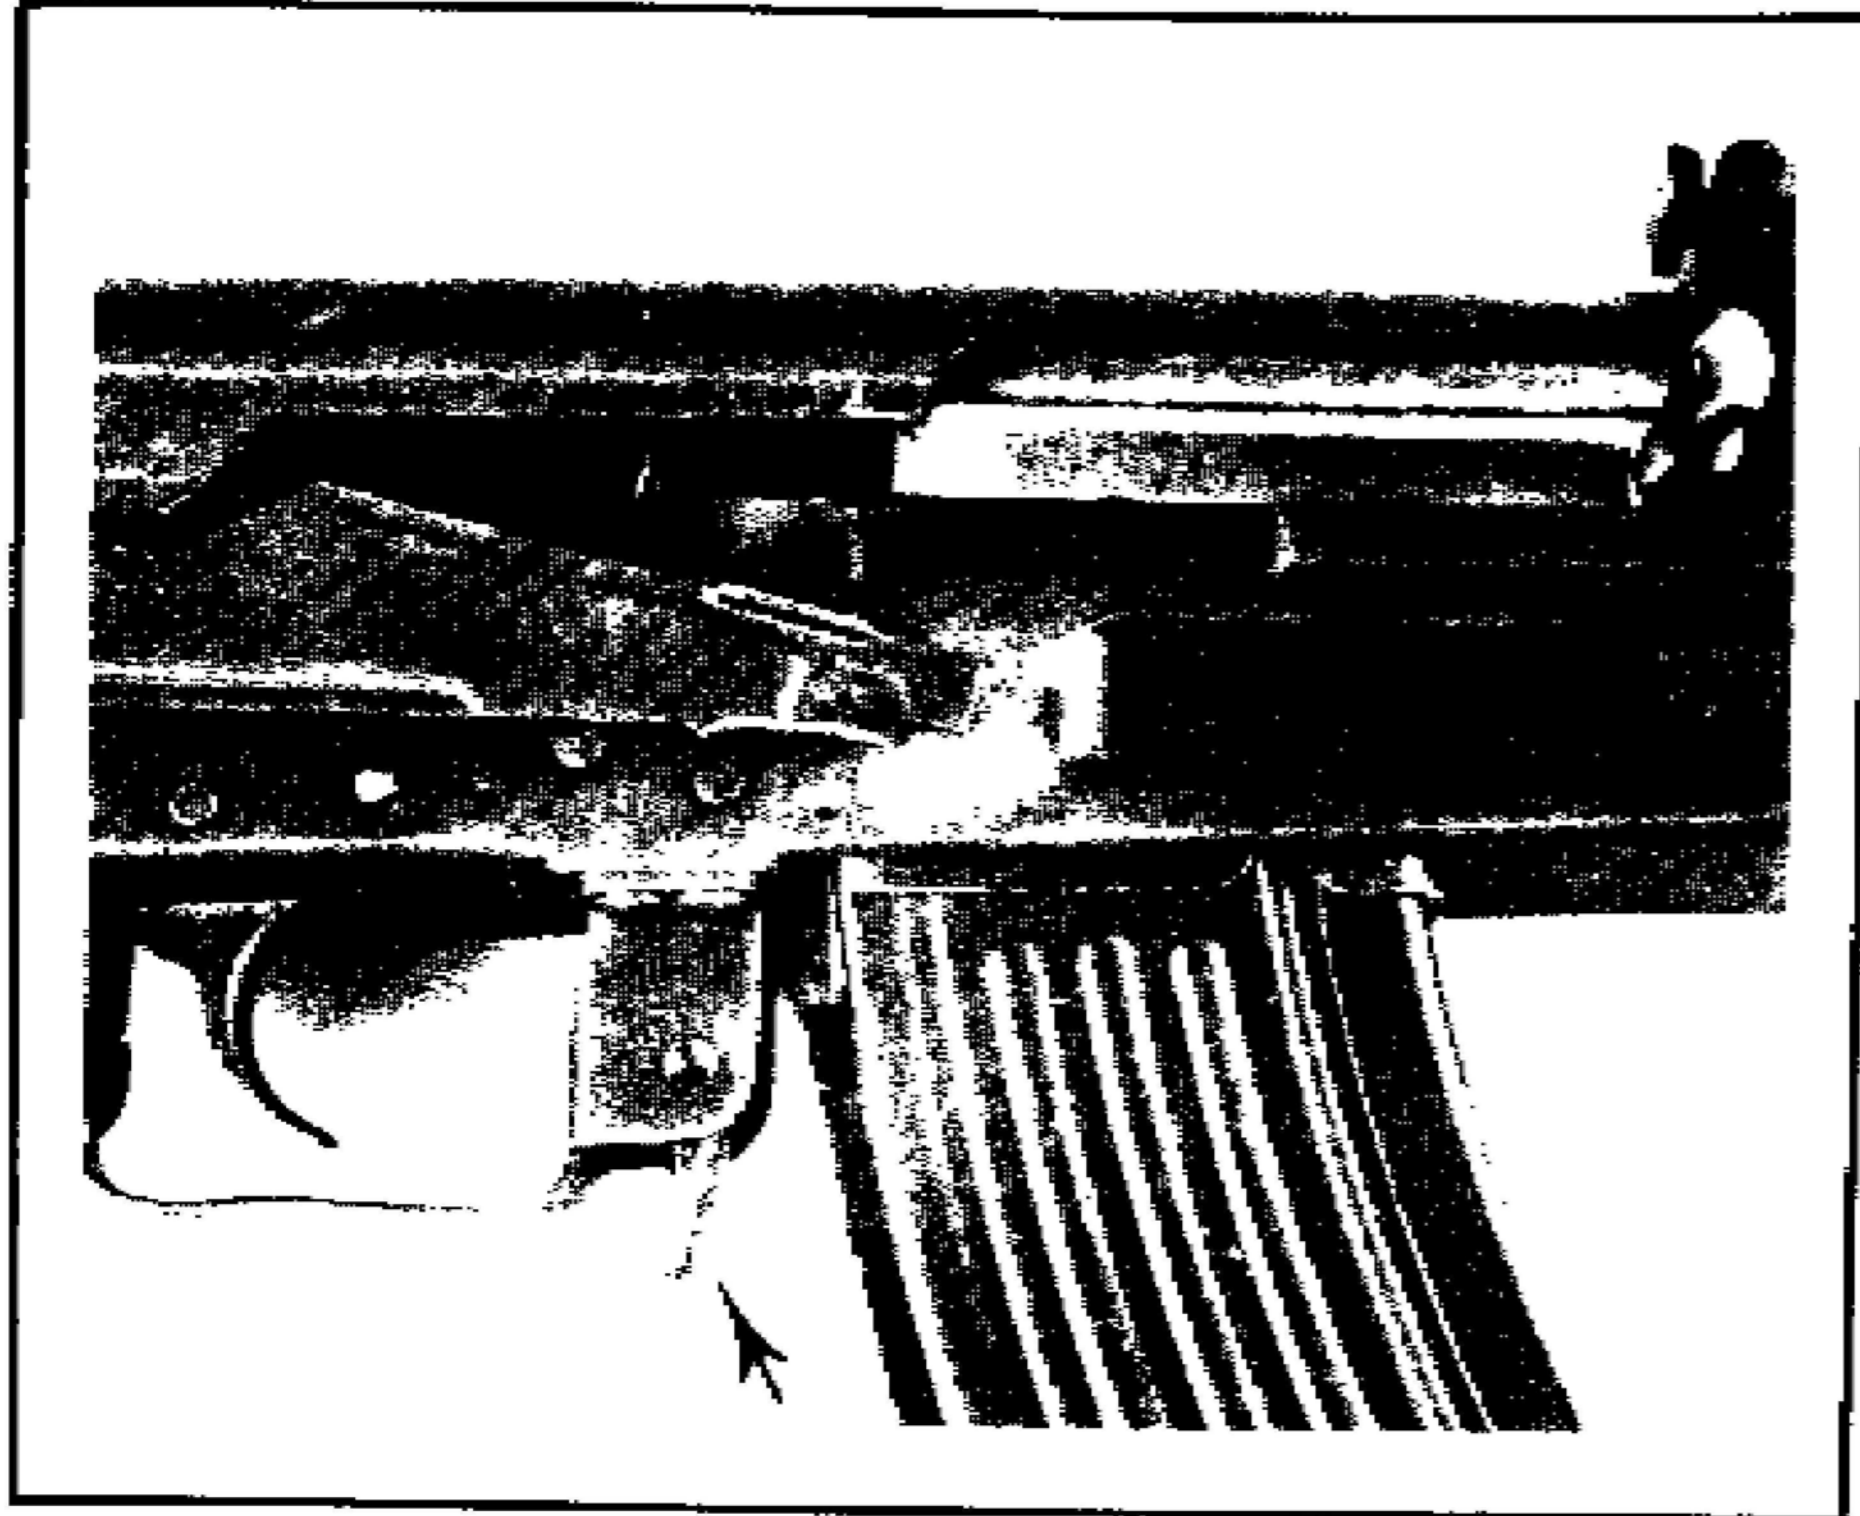
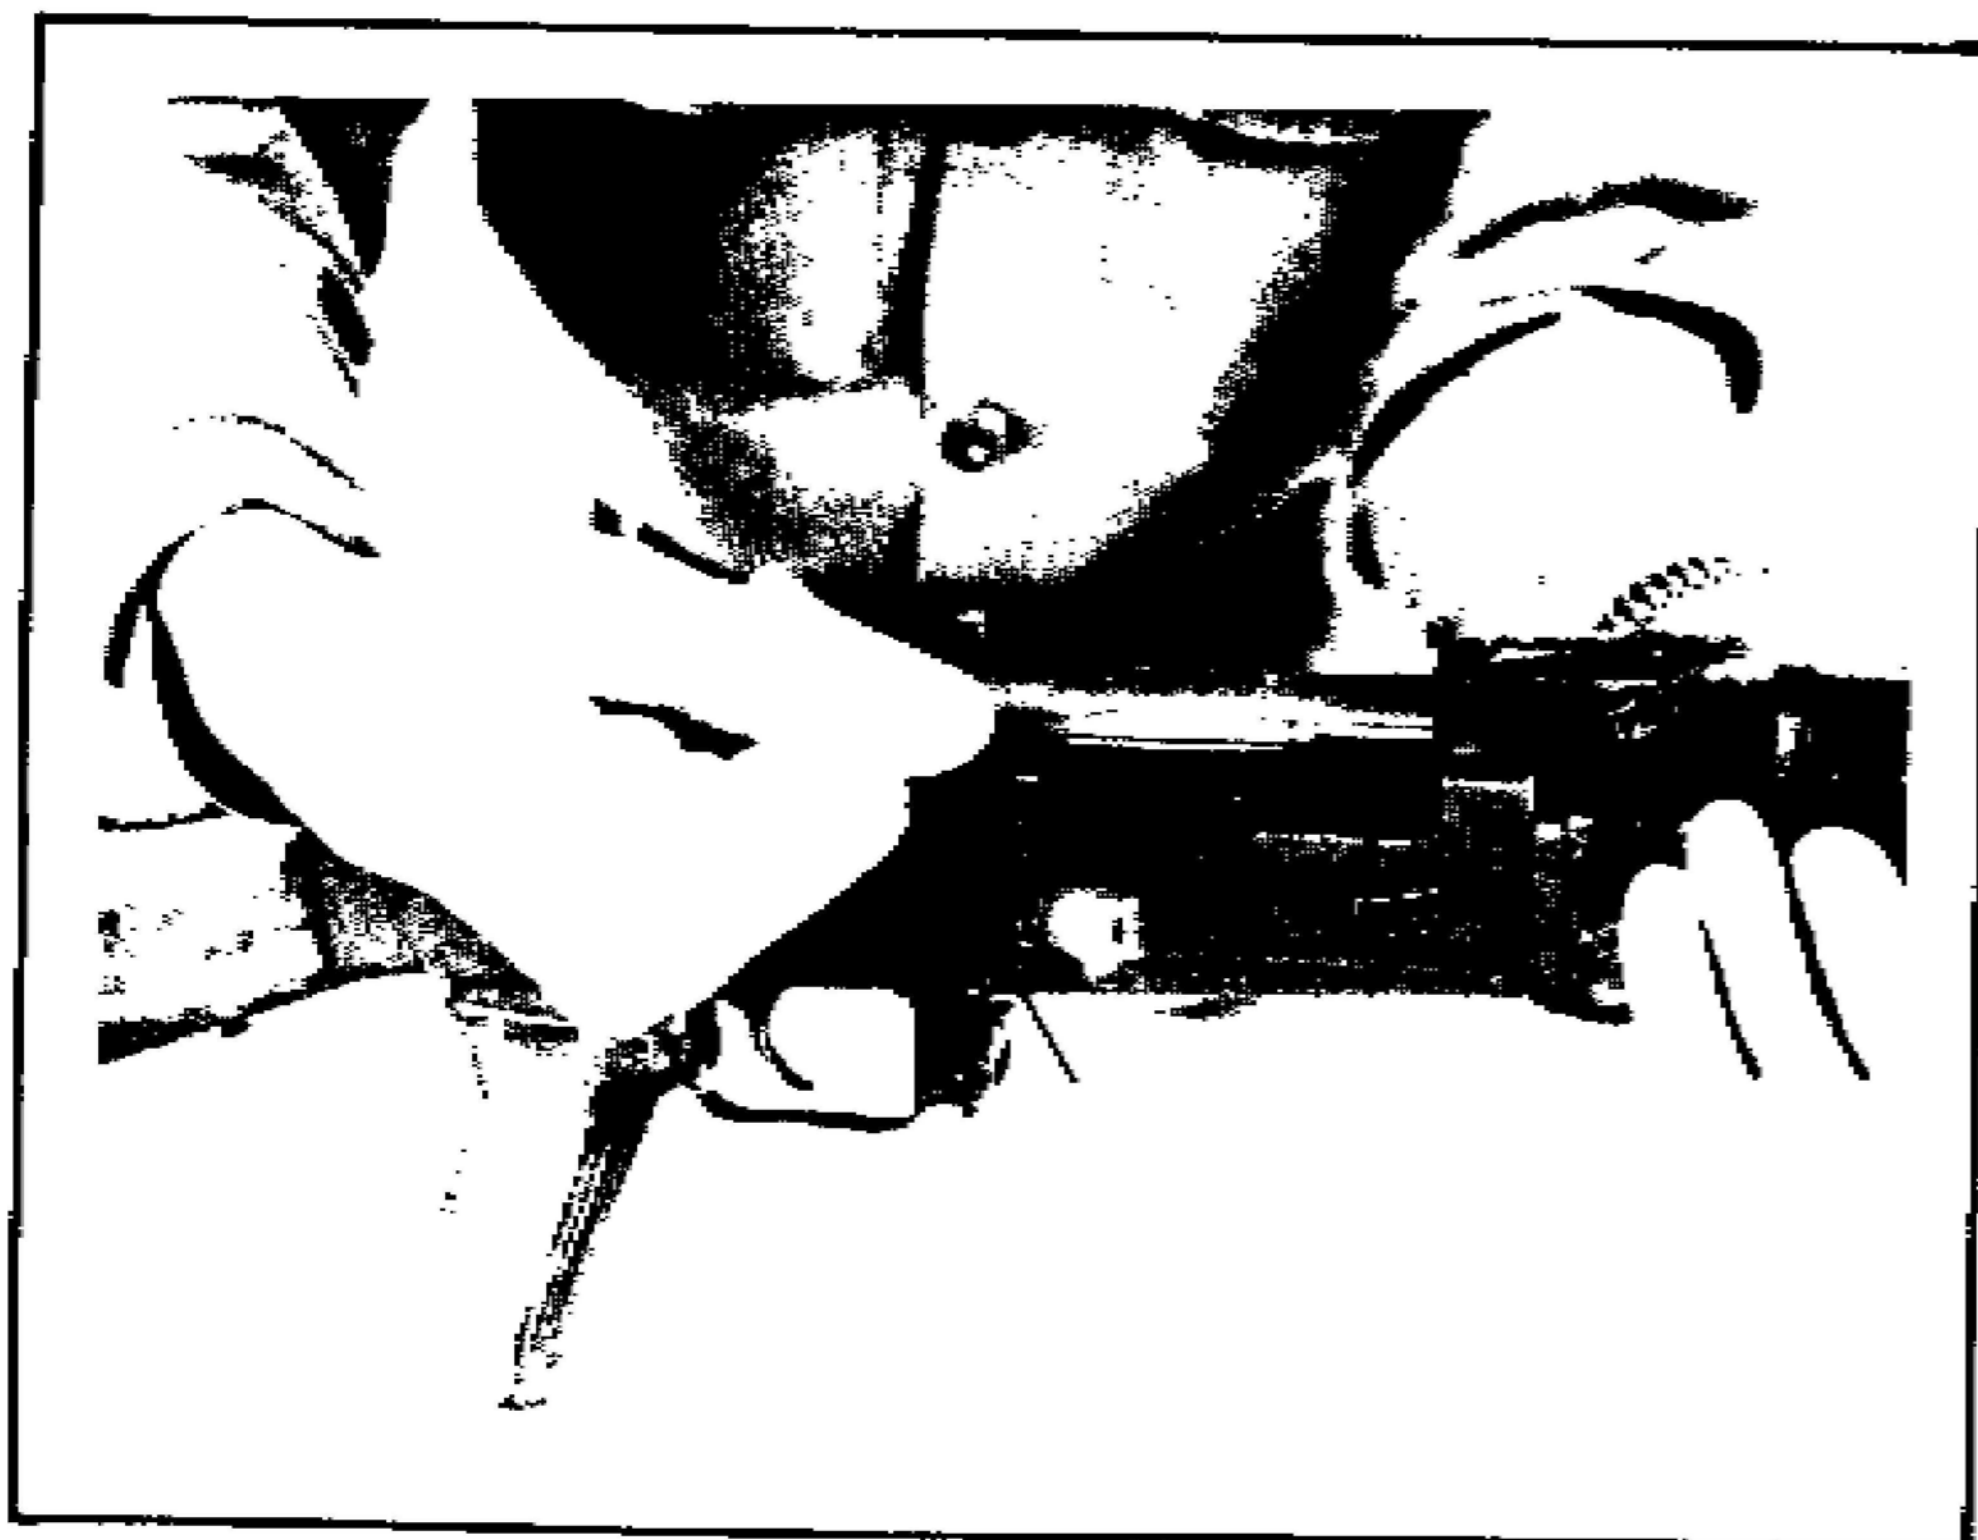

FIGURE 15. MAGAZINE CATCH
FIGURE 16. OPERATING HANDLE
A. Pull charging handle, shown on page 11 figure 16, fully to the rear and release.
Unloading: Remove the magazine by pressing the magazine catch (fig 15) toward the magazine; then swing the magazine forward and out of the receiver. Pull the operating handle fully to the rear, inspect the chamber and receiver. If no cartridge is present, release the operating handle and pull the trigger (fig 16).